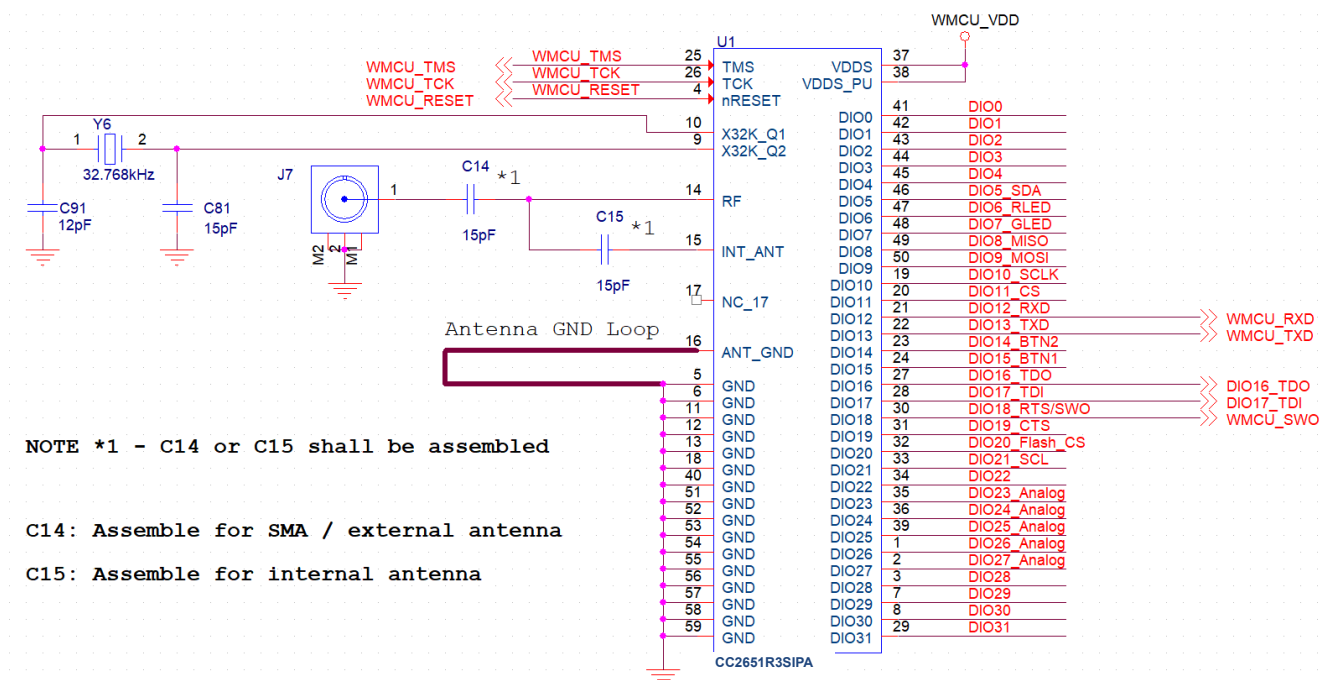

Figure 10-1. CC2651R3SIPA Typical Application Schematic
Figure 10-1 shows the typical application schematic using the CC2651R3SIPA module. Note that C15 should be assembled when using the integrated antenna option within the module and when the layout design guidelines in Section 10.4.2 are strictly followed. If the layout guidelines described in Section 10.4.2 cannot be followed, it is recommended to implement the alternate application circuit schematic in Section 10.2 and follow the alternate layout guidelines in Section 10.4.4.
Table 10-1 provides the bill of materials for a typical application using the CC2651R3SIPA module with the internal antenna as shown in Figure 10-1, while Table 10-2 provides the bill of materials for a typical application using the CC2651R3SIPA module with an external antenna as shown in Figure 10-2
In order to meet the module power-on-reset requirements, VDDS (Pin 37) and VDDS_PU (Pin 38) should be connected together. If the reset signal is not based upon a power-on-reset and is derived from an external MCU, then VDDS_PU (Pin 38) should be No Connect (NC). Please refer to Figure 10-1 for the recommended circuit implementation.